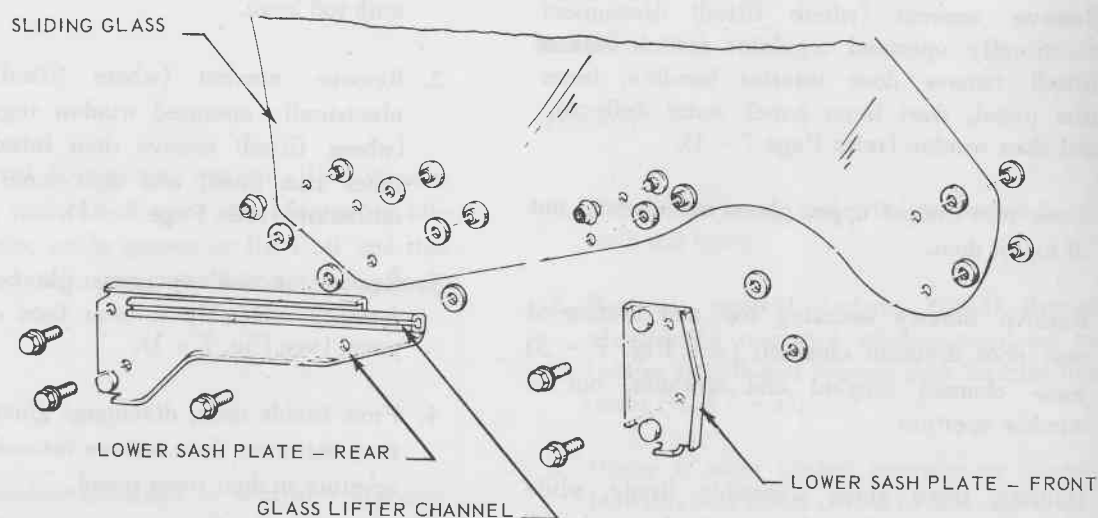

FIG. 7 - 12
3. With open side of lifter cams towards concave side of glass, position support channel, using dimensions illustrated in Fig. 7 - 11.
2. Using Tool No. 1A8, remove roller tee nuts and plastic bushings from bolts (see Fig. 7 - 12).